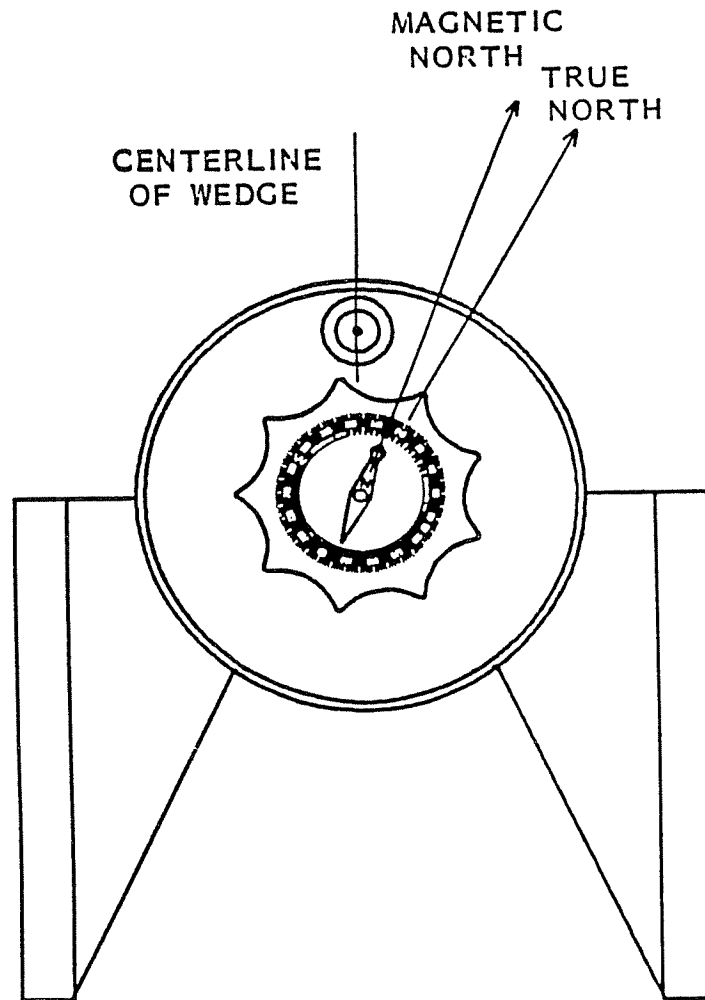

Figure 4
2. Rotate the knob/compass so that the magnetic pointing arrow lies directly over the painted black alignment arrow (Figure 4). The "North" position on the direction scale (and the point on the knob/compass) now point directly north.